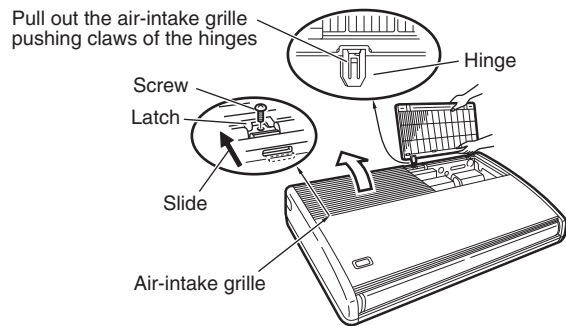
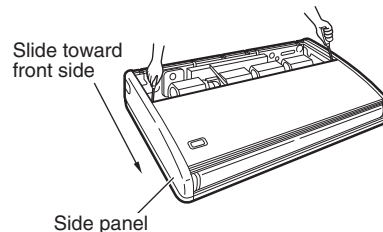

Fig. 3-20
Fig. 3-21
- Before suspending the indoor unit, remove the 2 or 3 screws on the latch of the air-intake grilles, open the grilles, and remove them by pushing the claws of the hinges (Fig. 3-20). Then remove both side panels sliding them along the unit toward the front after removing the 2 attachment screws. (Fig. 3-21)